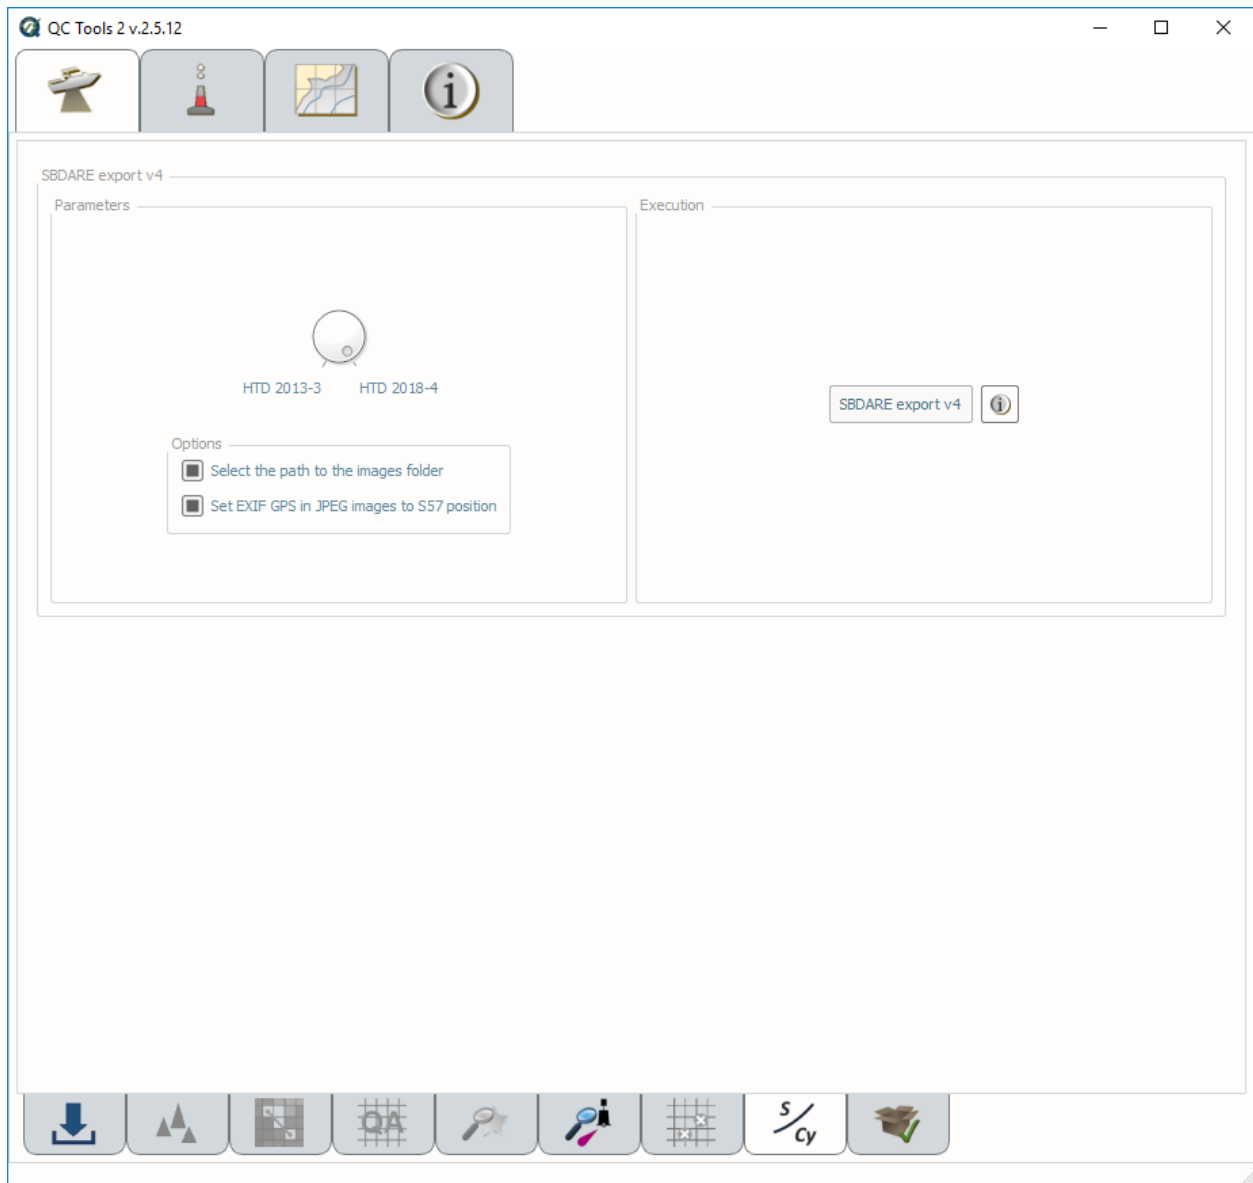

Fig. 2.33: SBDARE exports interface.
- Click **SBDARE export v4** (Fig. 2.33).